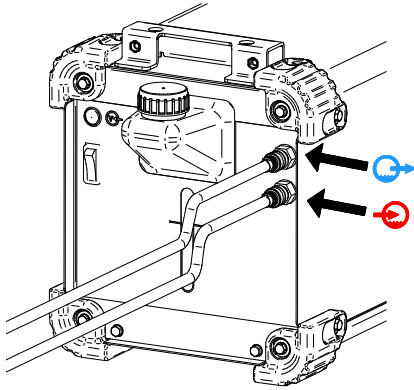

Figure 7.
- Connect the water-cooler hoses to the cooler's inlet [5] and outlet [4] socket (Figure 7).
- Connect the water-cooler hoses – Figure 7.